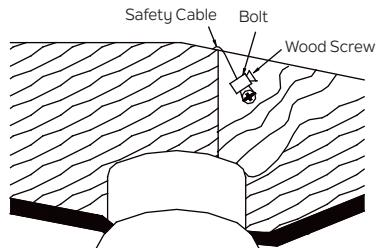

Fig. 14
**Step 2.** Insert the safety cable through the mounting bracket and one of the holes in the outlet box into the ceiling. Adjust the length of the safety cable to reach the screw and washers by pulling the extra cable through the cable clamp until the overall length is correct, put the end of the cable back through the cable clamp, forming a loop at the end of the cable. Tighten the cable clamp securely. Now, put the loop in the end of the safety cable over the wood screw and under the washer. Tighten the wood screw securely. (Fig. 14)